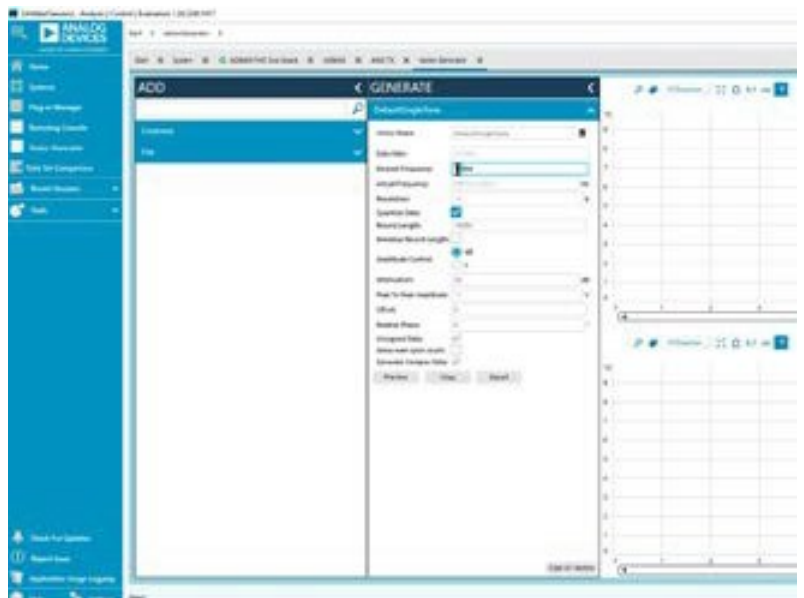

Figure 24. Default Single Tone Vector Setup
- f. A default single tone vector window pops up, as shown in Figure 24.